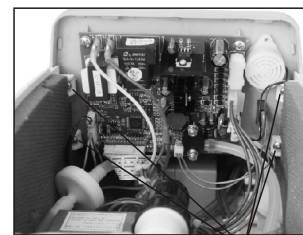

Figure 24
- ▶ Unscrew the 4 fixing screws which connect the back of the panel and both sides of the panel, then push the panel. (Figure 24)